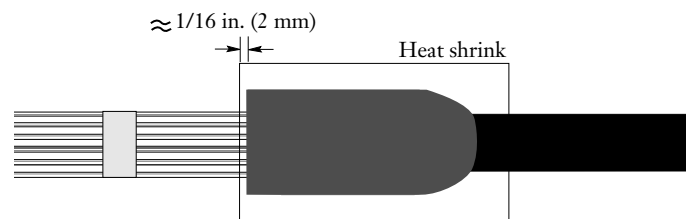

Figure 17
6.15 Slide the 3.5 inch piece of adhesive-lined heat shrink down the cable so that it hangs over the edge of the tube end of the epoxy plug about 1/16 of an inch (2 mm) (Figure 17).